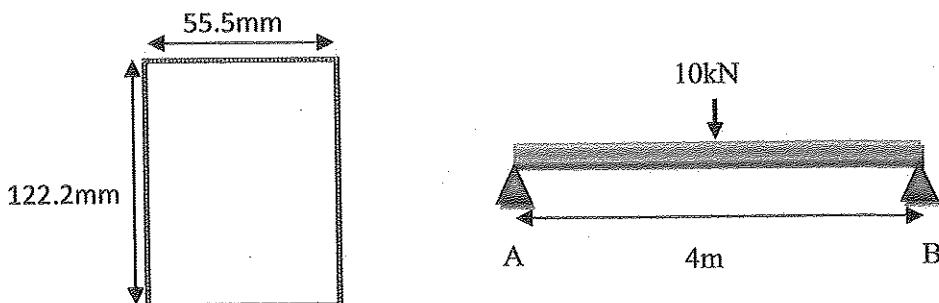

Figure 3(b) / Rajah 3(b)
- (b) A simple supported beam with rectangular cross section carrying a uniformly distributed load of 10 kN/m is shown in Figure 3(b). Determine the maximum bending stress in the beam.